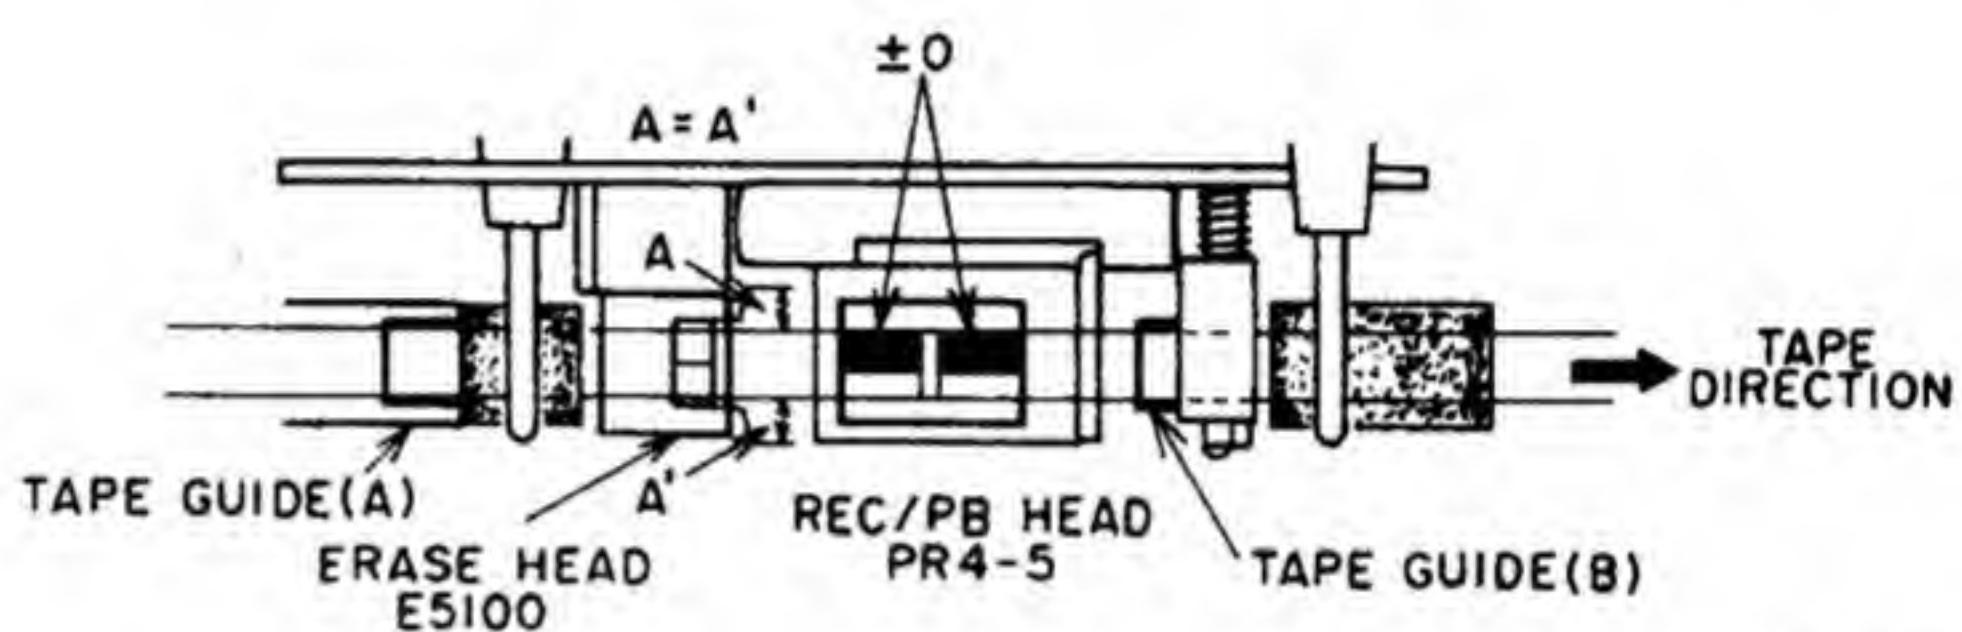

Fig. 6-2
- 2) Adjust the tape guide (A) so that the parts of the erase head coming out of both sides of the tape (A and A' in Fig. 6-2 will be equal. For the adjustment, use the adjustment nut (A).
- 3) Adjust the tape guide (B) so that the tape runs smoothly and is not hitched by the tape guide.